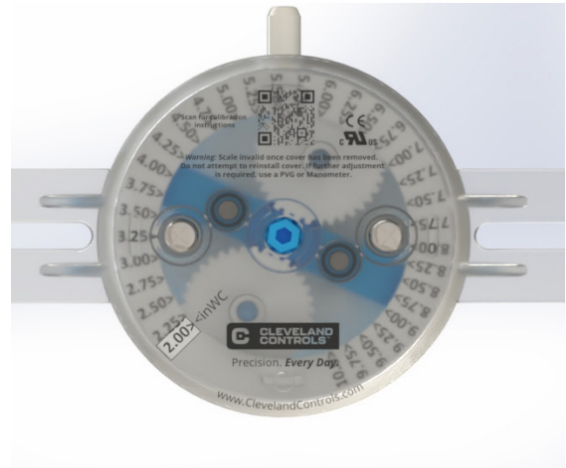

Figure 1 Viewing Window
- Use a 7/64" Allen key in the keyhole to adjust the set point viewable in the adjustment cover viewing window as shown in Figure 1.